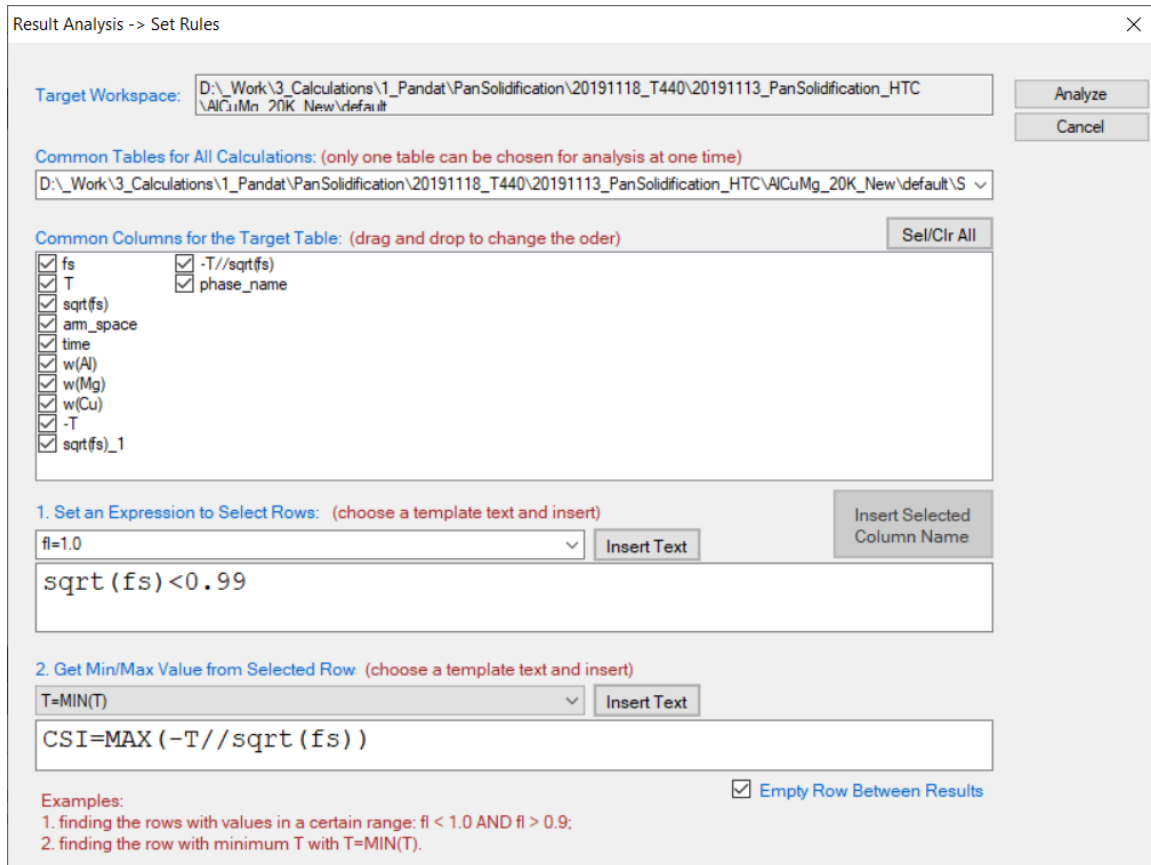

Figure 5.3.5: Criteria for Cracking Susceptibility Index setting from solidification results analysis.
- Define the criteria of the properties as filters for result analysis. As shown in the following Figure 5.3.5, analysis the “generated table”, set the condition to find the CSI for each alloy composition, i.e., $CSI = \text{MAX}(-T//\text{sqrt}(fs))$ at $\text{sqrt}(fs) < 0.99$.